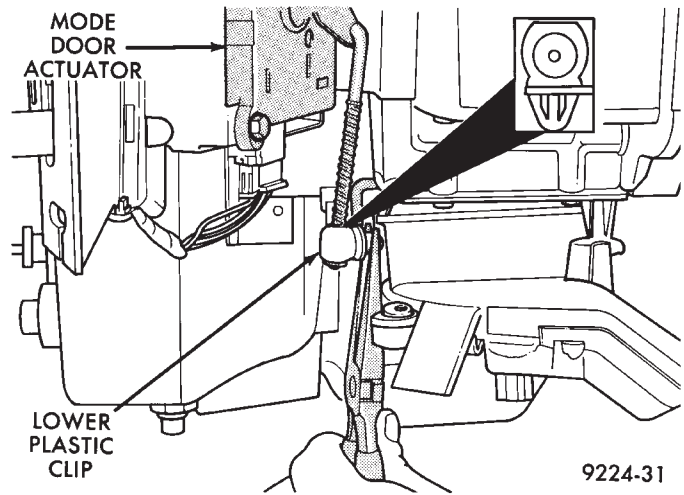

Fig. 4 Plastic Clip on Mode Door Actuator
- (1) Remove under panel silencer.
- (2) Disconnect electrical connector from actuator.
- (3) Pinch and remove the lower plastic clip from the actuator arm (Fig. 4).